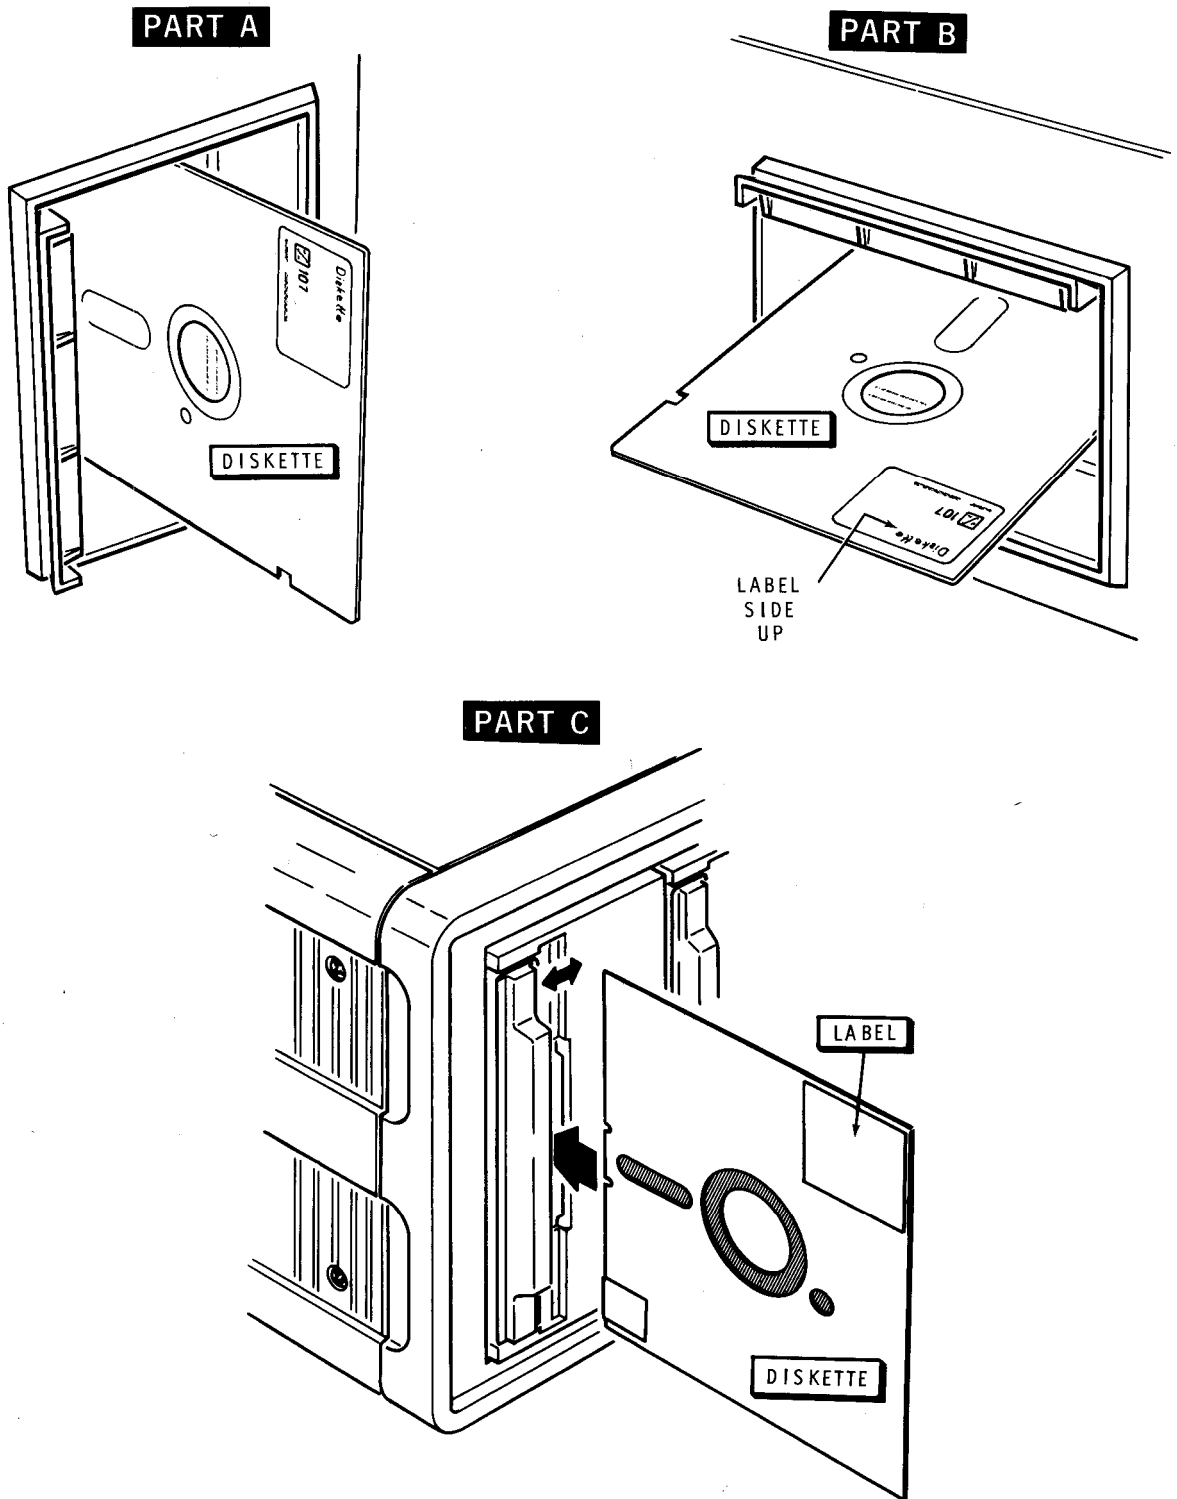

Figure 1-2
- ( ) 3. Insert the distribution diskette into the drive that has been hardware configured as primary boot drive  $\emptyset$ ; See Figure 1-2. Close the door of the drive unit after you have inserted the diskette.